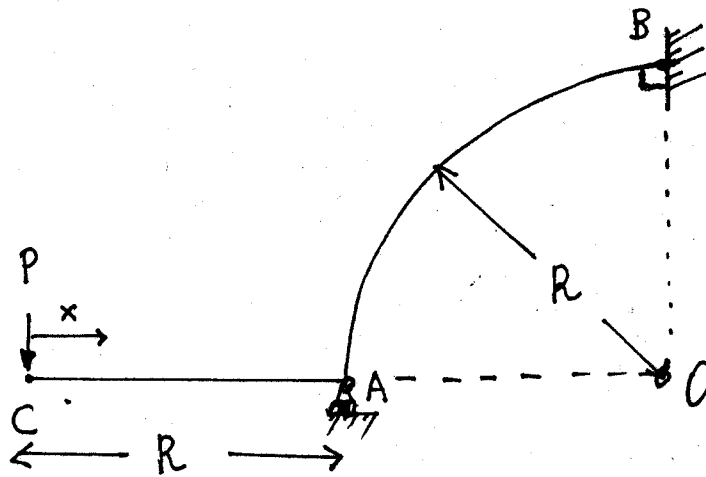

Figure 2
2. (25 pts) A beam structure CAB made of linearly elastic uniform material of the Young's modulus of elasticity E as in Figure 2 is composed of a straight segment CA of length R and of a curved segment AB. The segment AB is a quarter of a circle of radius R and center O as in Figure 2. The cross-sections of the beam segments AB and CA are circular of radius r . The two beam segments are rigidly welded at point A. The end C is free and the end B is fixed (clamped to a vertical wall) and point A is supported on a pin-roller. A vertical force P is acting at the free end C as in Figure 2.